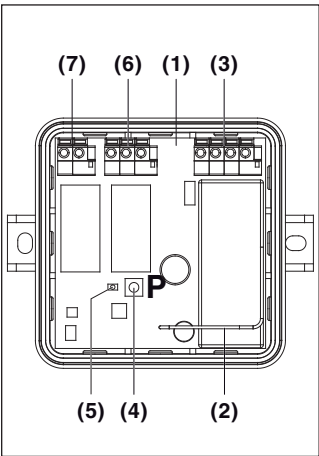

Fig. 1
2.1 Receiver BDE325-2 / BDE325-2A (fig. 1)
3.1 Connecting the receiver (fig. 1, 2 and 3)
2.1 Mottagare BDE325-2 / BDE325-2A (fig. 1)
3.1 Mottagarens anslutning (fig 1, 2 och 3)